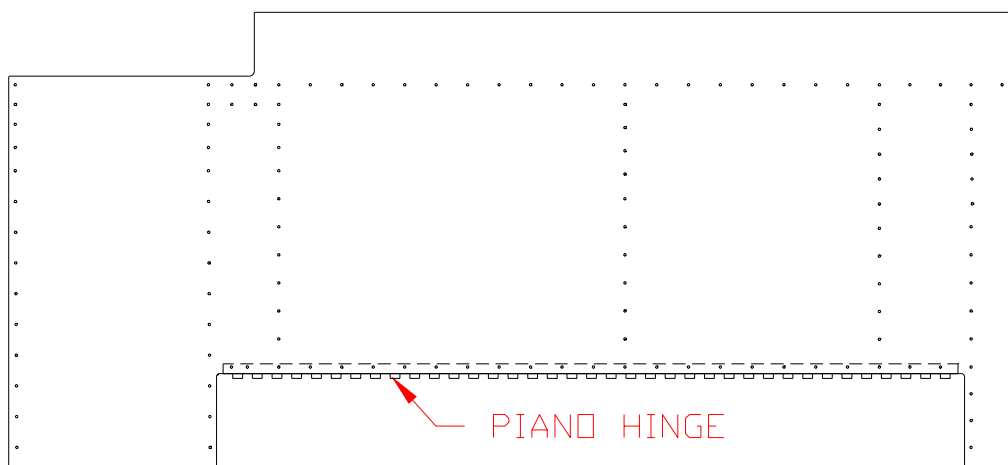

Figure 3.5.1
- 4) Position the hinge material under the Elevator Skin so the two center lines match up. Drill the #40 holes from the Elevator Skin into the hinge material. Figure 3.5.1.